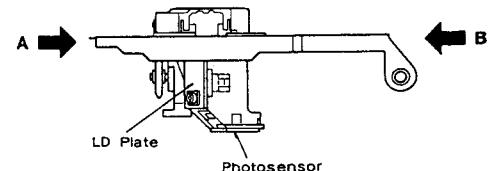

Fig. 4-3
- During the transportation, mounting and dismounting of the assembly, support with your fingers at points A and B as shown in Fig. 4-3. Be particularly careful not to touch the actuator, photosensor and LD plate and do not apply force to them.